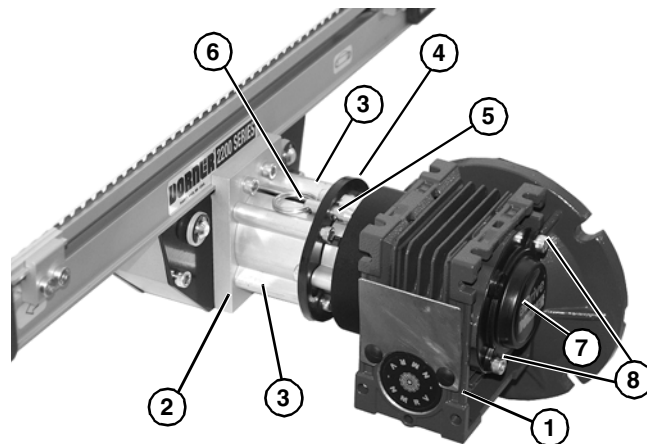

Figure 9
2. Raise gearmotor assembly (**Figure 9, item 1**) into position on mounting block (**Figure 9, item 2**). Install two long side drive couplings (**Figure 9, item 3**) and mounting ring (**Figure 9, item 4**) with four M6x70 socket head screws (**Figure 9, item 5**). Tighten screws to 60 in-lb (7 Nm).
3. Install quick release pin (**Figure 9, item 6**) into mounting ring to secure position.
4. Install motor onto gearmotor assembly (**Figure 9, item 1**). Tighten M6 motor mounting screws to 60 in-lb (7 Nm).
5. Install cover (**Figure 9, item 7**) with two M4 socket head screws (**Figure 9, item 8**). Tighten screws enough to secure cover.